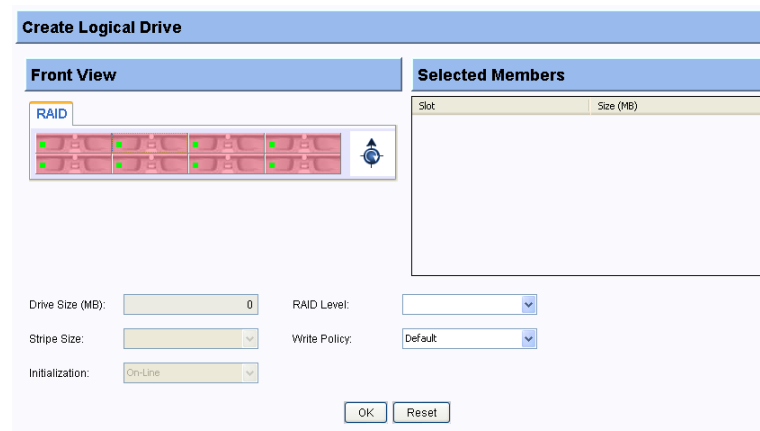

Fig. 9.2 The Create Logical Drive Window
2. The configuration screen shown in *Figure 9.2* should appear.